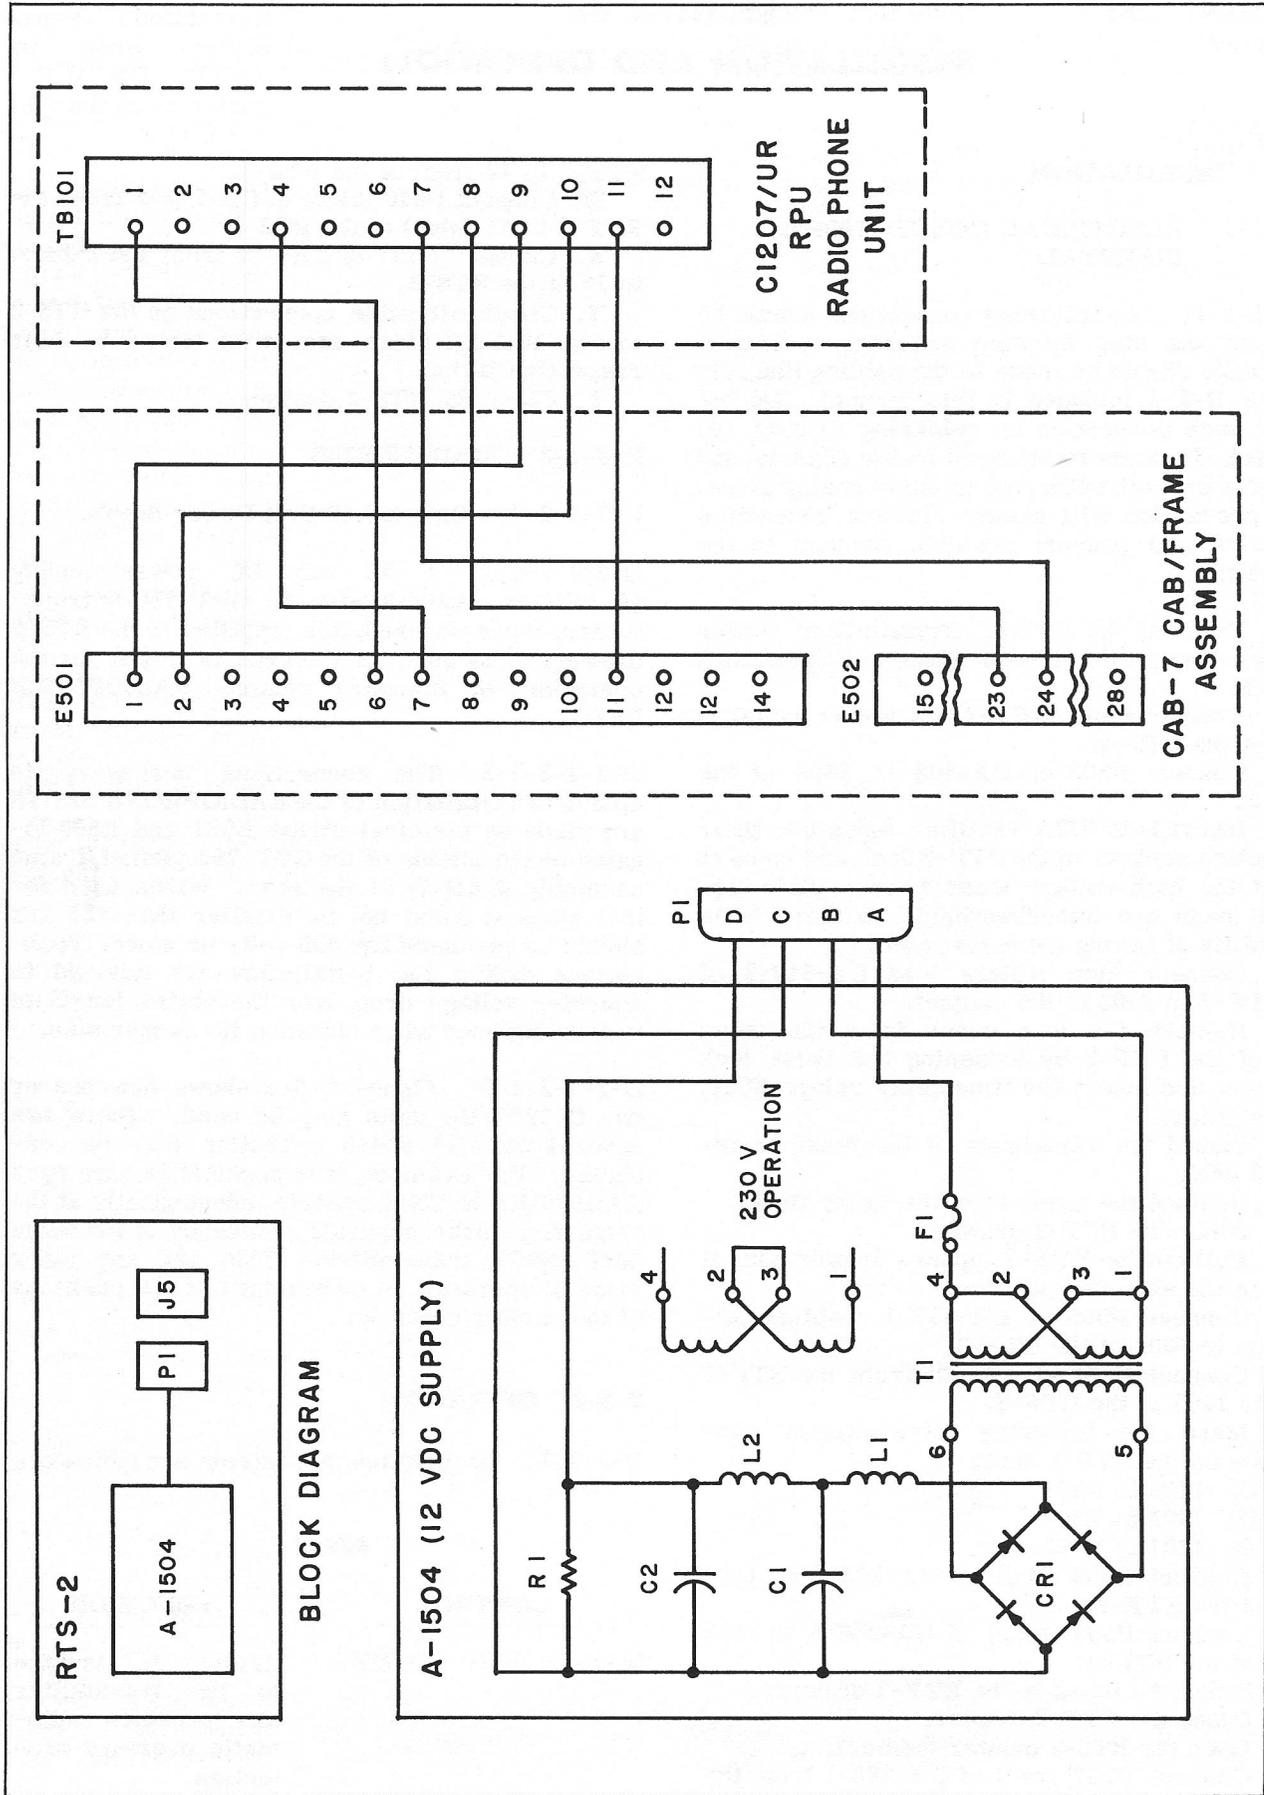

Figure D-3-1 Cabling Diagram 12 Volt Power Supply
D-3-1-2-1-3 Figure D-3-1 shows how one or two C-1207/UR units may be used. There are several ways in which operation may be conducted. For example, it is possible to have each RADIOPHONE UNIT operate independently at the same time over separate sidebands of the same GPT-750(D) transmitter. This and any other mode of operation is determined by the positions of the exciter controls.